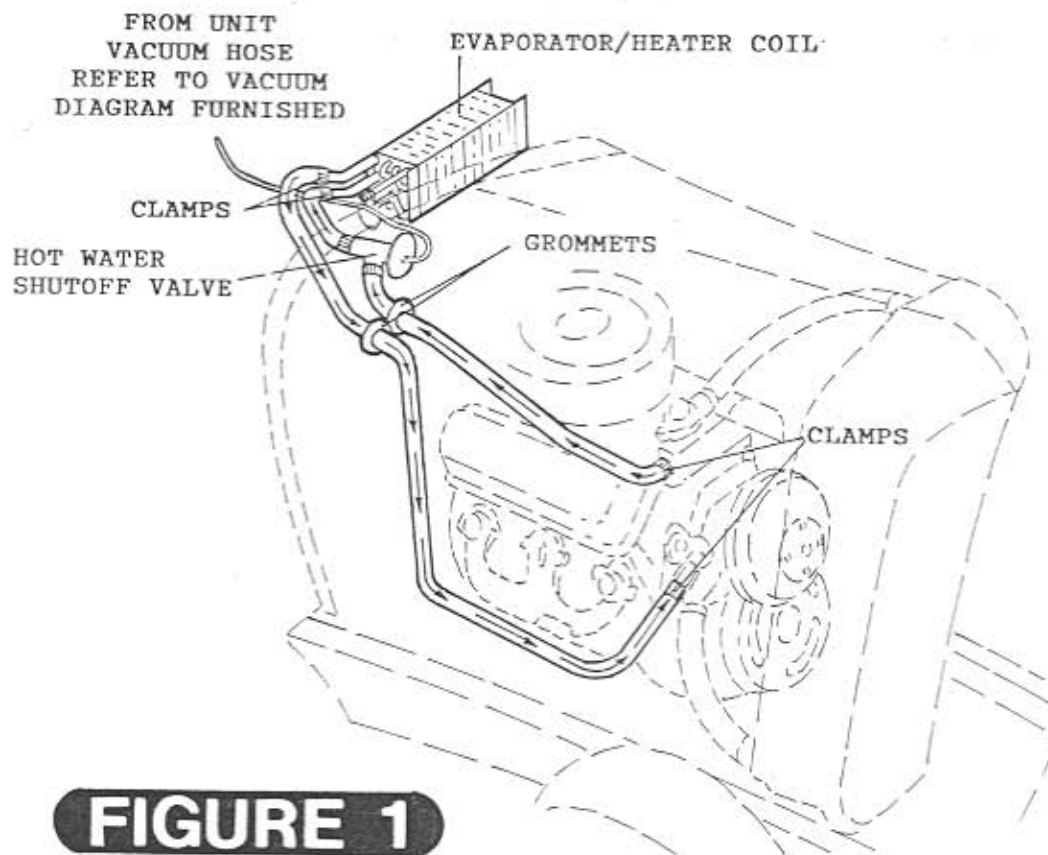

FIGURE 1
1. After the heater is in place, run 5/8" heater hose from the bottom heater fitting thru firewall or behind kick panel thru floor to the intake manifold heater connection. Install the vacuum heater control valve in this line. SEE FIGURE 1.